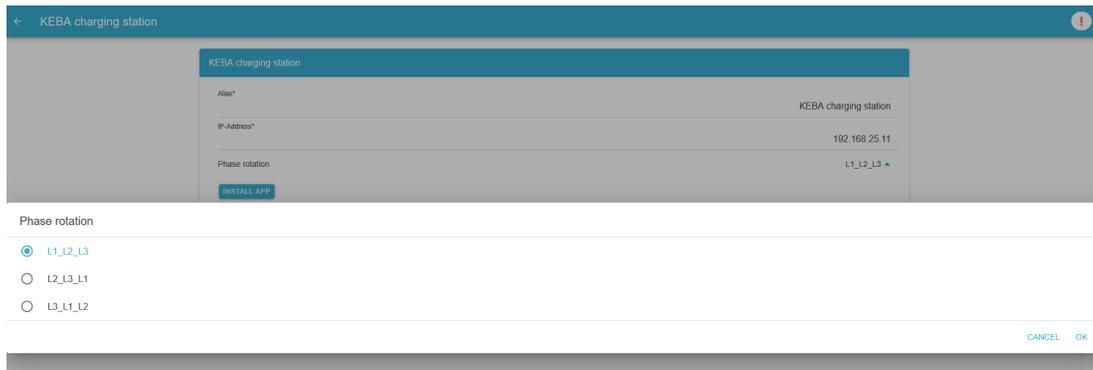

Figure 27. App installation — Phase rotation 2: Step 2
- Figure 27. App installation — Phase rotation 2: Step 2